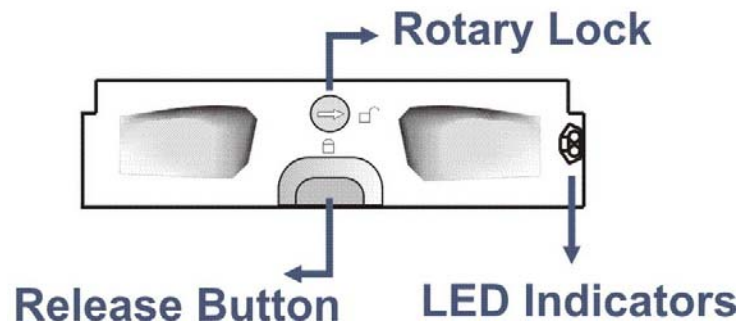

Figure 1-6: Drive Tray Front View
The A16E-G2130-4 subsystem comes with sixteen (16) drive trays (see **Figure 1-6**) designed to accommodate separately purchased, standard 1-inch pitch, 3.5-inch SATA-II disk drives. The drive bays are accessible from the enclosure front panel. Two (2) LEDs on the front bezel indicate the operating statuses. A key-lock on each drive tray secures the hard drive in place, while a release button enables fast retrieval of a hard drive.